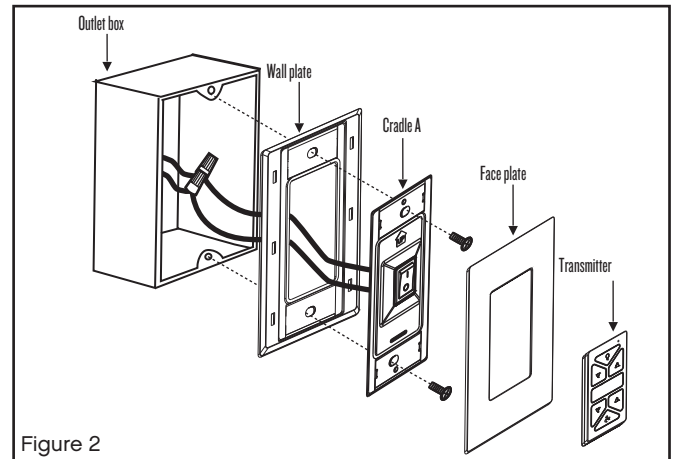

Figure 2
- 2 Seat the cradle A into the wall plate. (Fig. 2)